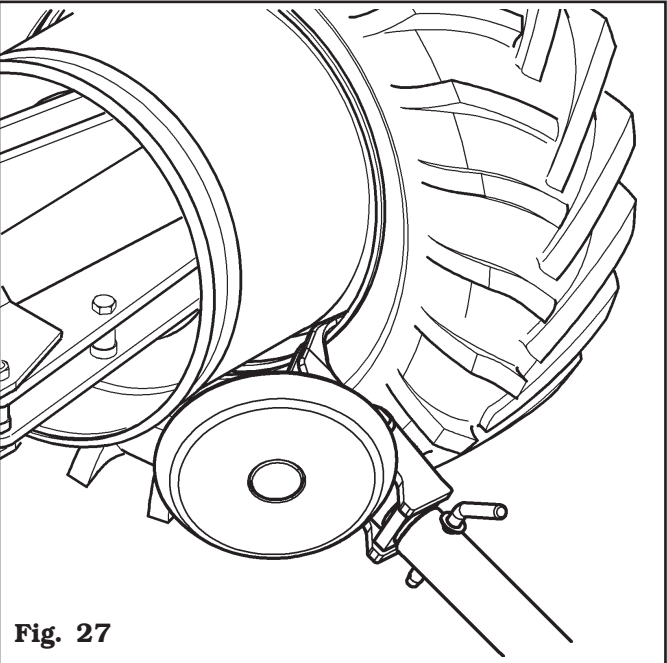

Fig. 27
- Move the tool forward until the axis of the reference notch matches that of the external edge of the rim at about 5 mm from the rim itself (see **Fig. 27**).